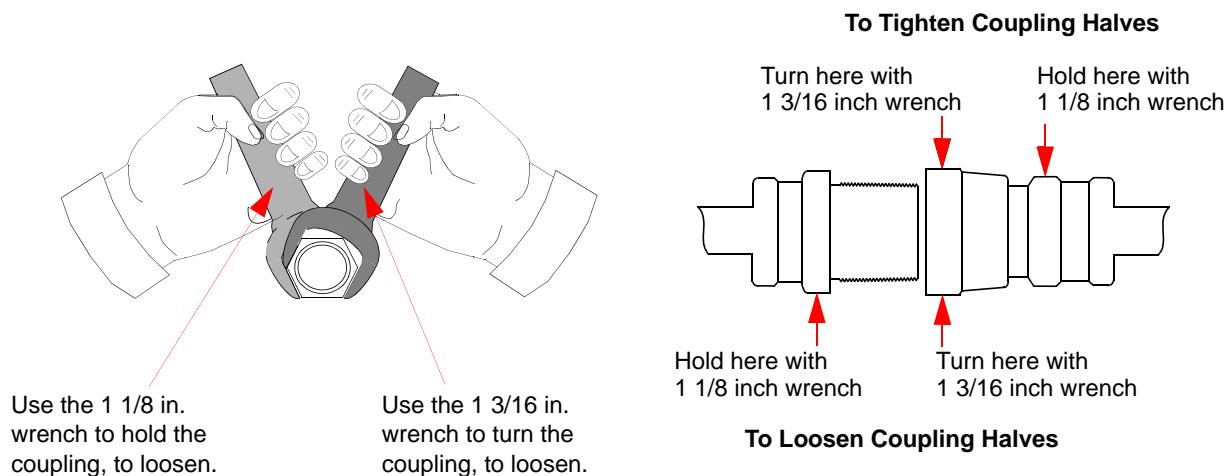

Figure 4-4: Connecting/Disconnecting Helium Flex Line Couplings
CAUTION Equipment Damage To avoid damaging o-rings and creating a helium leak, follow the procedure in this section, including Figure 4-4 on page 4-12 .
3. Connect one end of the Helium Supply Line to the Helium Supply connector on the rear of the 8600 Compressor, and connect the other end to the Gas Supply connector on the 20HP Cryopump. Tighten the connection by using a 1 1/8-inch wrench to hold the coupling stationary and a 1 3/16-inch wrench to tighten the self-sealing coupling connector as shown in Figure 4-4.
3. Disconnect the two self-sealing coupling connectors quickly to minimize helium leakage by using a $1\frac{1}{8}$ -inch wrench to hold the coupling stationary, and use a $1\frac{3}{16}$ -inch wrench to loosen the self-sealing coupling connector as shown in Figure 4-4 on page 4-12.